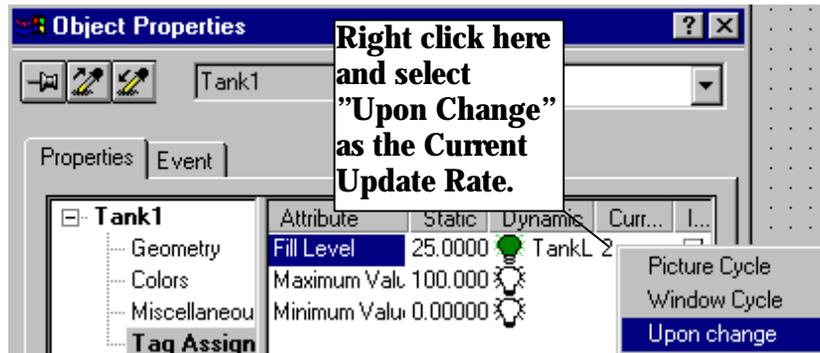

Figure 2.24 WinCC Project "QckStart"; Changing the Update Rate
4. Right click on the Current Update Rate, 2 seconds, and select "Upon Change" and then OK. View Figure 2.24 for reference.